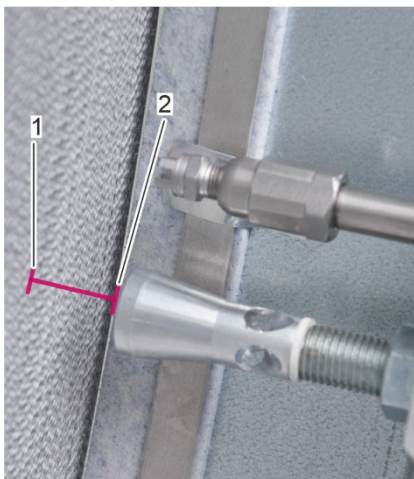

Fig. 43: Distance between compressed air nozzle and rotor surface
8. Measure the distance between the compressed air nozzle (Fig. 43/2) and the rotor surface (Fig. 43/1).